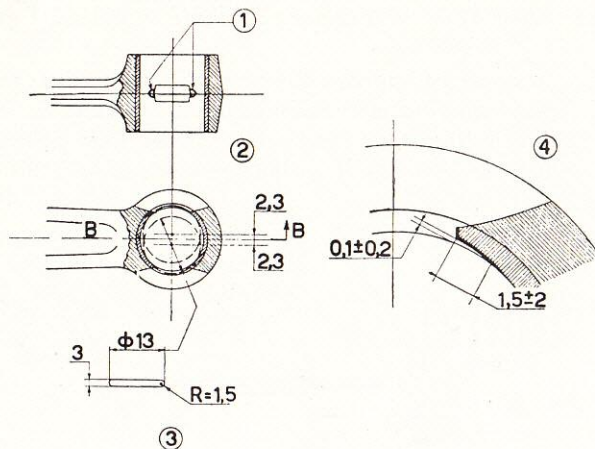

Fig. 87.
7. In order to improve the flow of lubricant to the gudgeon pin and bush on con. rod small end while the engine is running, chamfer the four points indicated on Fig. 87, either by means of a circular